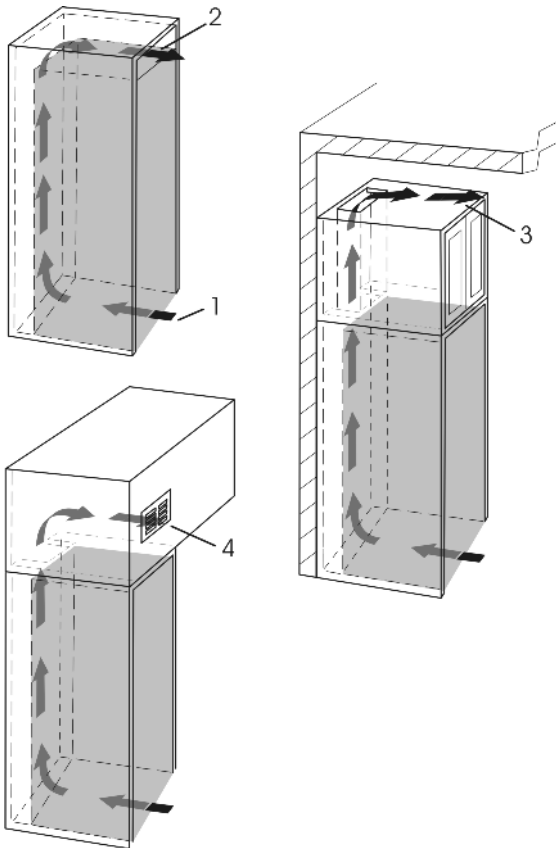

Fig. 7
- An effective ventilation cross-section of at least 31 in² (200 cm²) per unit must be present at the air intake Fig. 7 (1) and air outlet Fig. 7 (2).
- The upper ventilation cross-section can be set up directly above the appliance with an optional ventilation grille Fig. 7 (2), near the ceiling above a cabinet Fig. 7 (3) or as an air vent in an intermediate ceiling Fig. 7 (4).